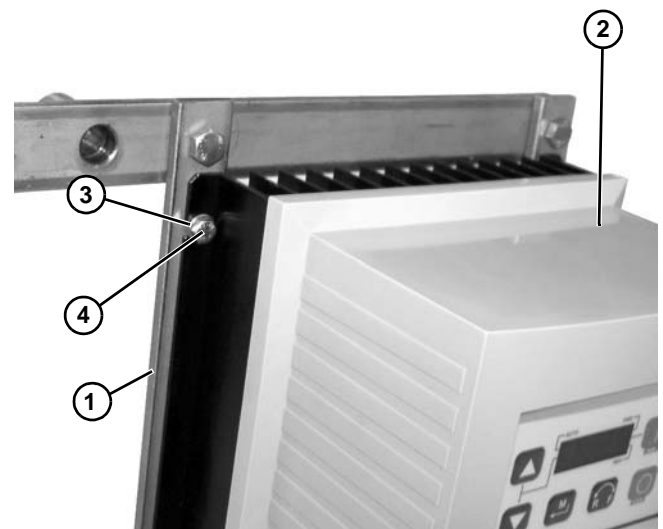

Figure 7
- Attach controller mounting bars (Figure 7, item 1) to controller (Figure 7, item 2) with washers (Figure 7, item 3) and screws (Figure 7, item 4).